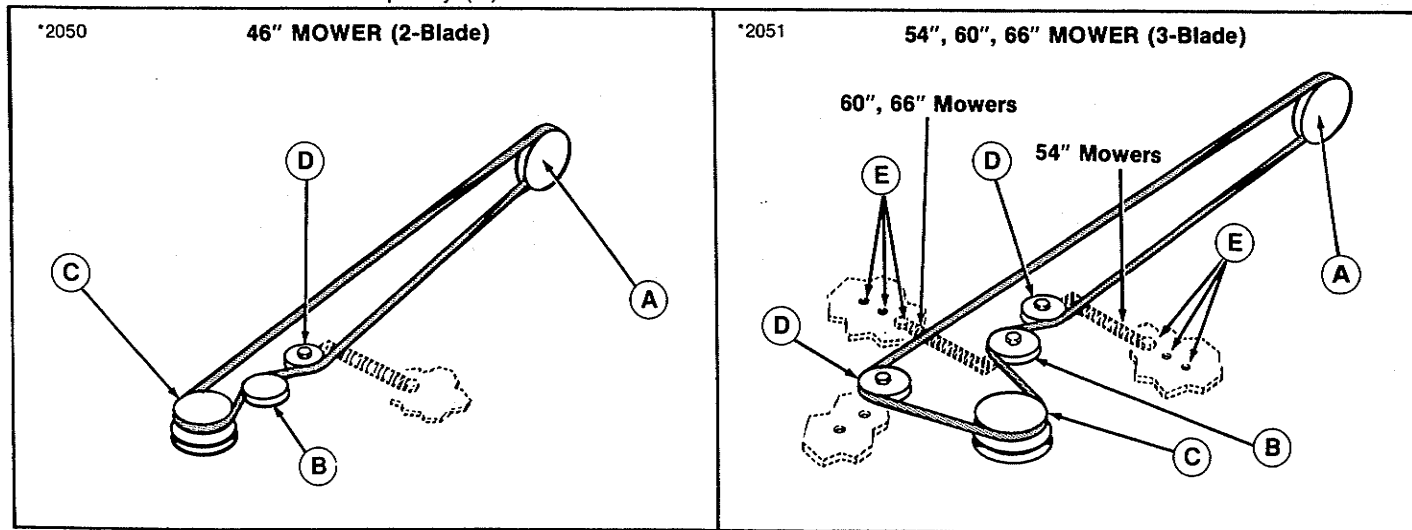

Figure 14.
3. Remove belt from mower drive pulley (C, figure 14) and idler pulley(s).
4. Remove belt from rider PTO pulley (A).
5. Reinstall new belt, making sure belt is correctly routed around V-pulleys and flat-sided pulleys. Refer to figure 14.
6. Belt tension can be adjusted by moving spring mounting bolt in one of three holes (E) on mower deck. On 3-blade mowers, if belt clearance between long side of mower belt and flat idler pulley (B) is not 1" (minimum), refer to Belt Clearance Adjustment, page 47.